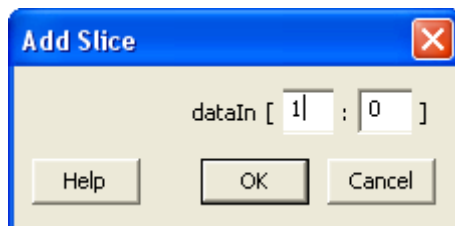

Figure 3-22 • Add Slice Dialog Box
4. Type 1 and 0 (for [1:0]), as shown in Figure 3-22.